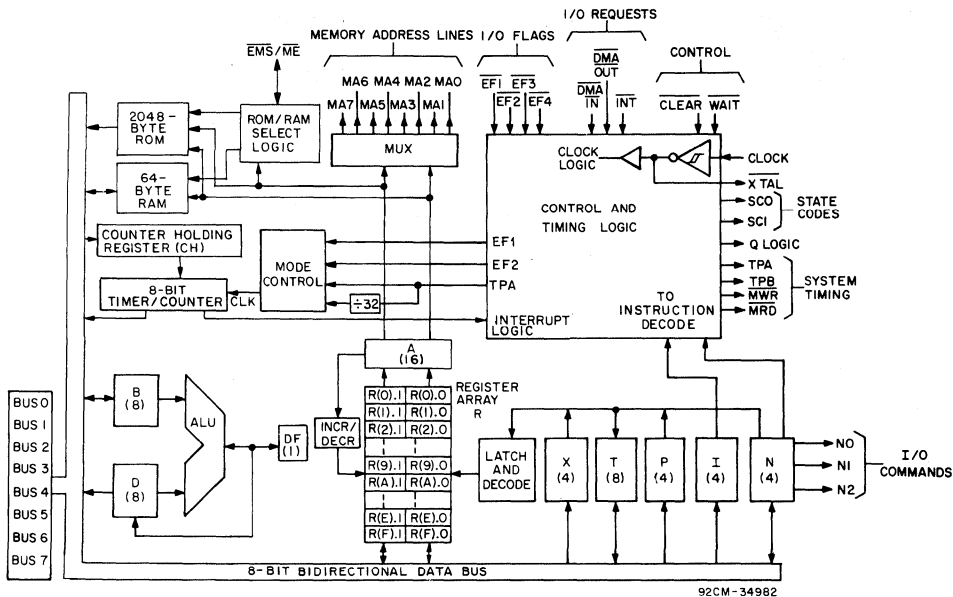

Fig. 2 - Block diagram for CDP1804AC.
Fig. 2 shows a block diagram of the CDP1804AC. The principal feature of this system is a register array (R) consisting of sixteen 16-bit scratchpad registers.